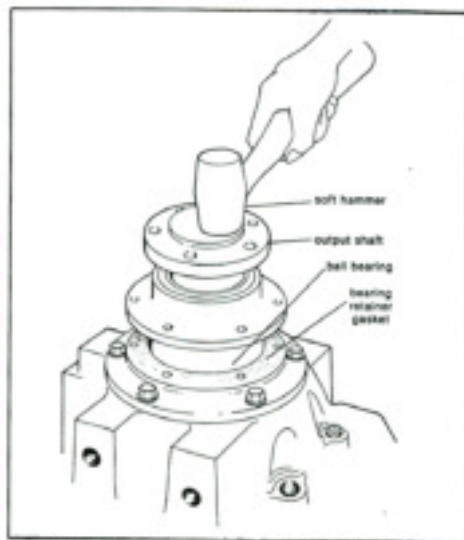

Figure 29. Installing Output Shaft Assembly.
8. Install output shaft assembly including ball bearing and bearing retainer into housing (see fig.29). Secure bearing retainer to cover with capscrews and lockwashers (6).